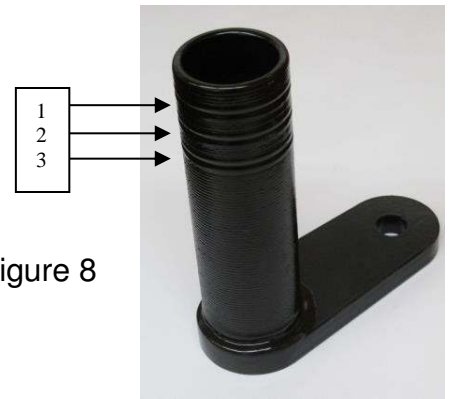

Figure 8
- ii. Trim off the pipe of the PB5019 to provide room for the spacers. There are three lines cut in to the pipe to act as a guide. See Figure 8 for a detailed view.